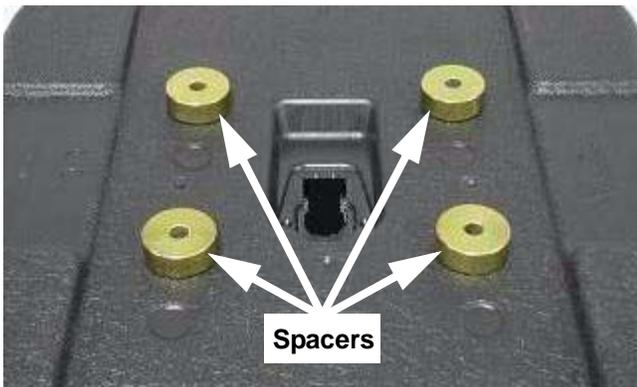

FIGURE 18
- 38. Place the four (4) Ref. #1 (750-03592) spacers over the seat bases four mounting holes. See Figure 18.